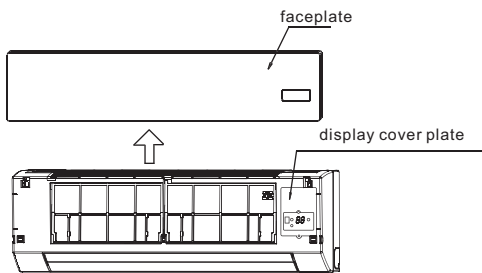

Fig. 7-1
- 1 Take out the faceplate, then dismantle the display cover plate. (Refer to Fig 7-1)